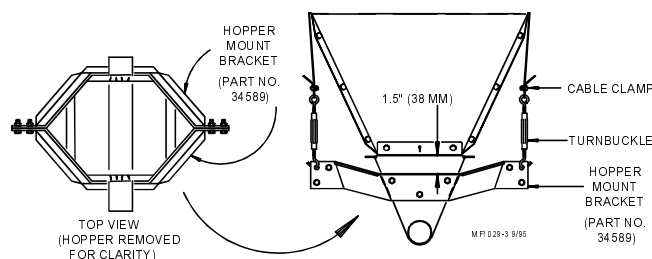

Figure 3.
3. Position the Hopper Mount Bracket flange approximately 1-1/2" (40 mm) below the top of the Intake Cup or Boot. See Figure 3.